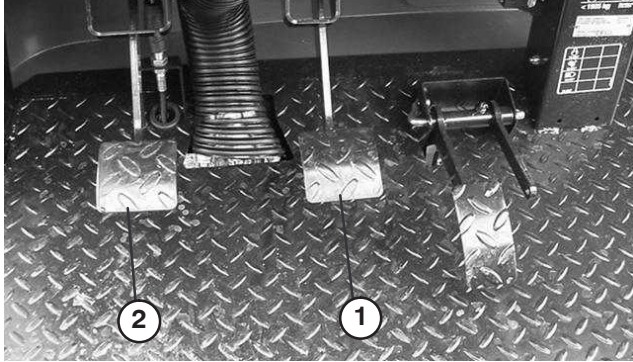

Figure 44
2. Lift up on brake pedal (Fig. 44) until it contacts frame.
3. Lift up on clutch pedal (Fig. 44) until it contacts frame.